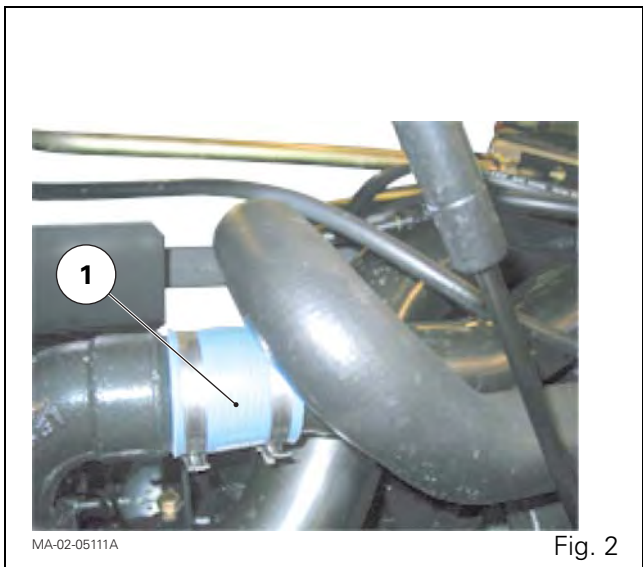

Fig. 2
- the turbocharger outlet air sleeve (1) (Fig. 2);